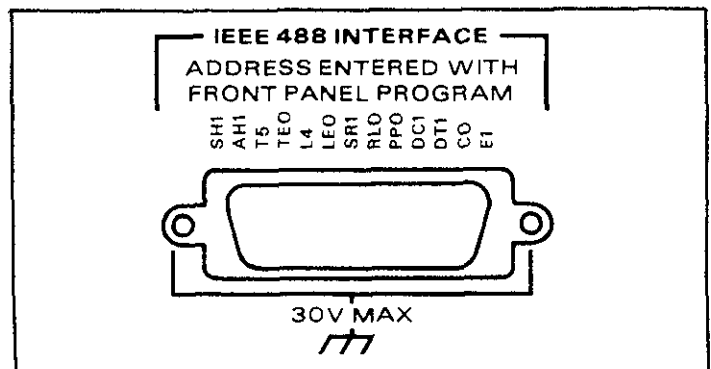

Figure 3-7. 617 Rear Panel IEEE Connector
1. Line up the connector on the cable with the connector on the rear panel of the instrument. See Figure 3-7 for connector location.